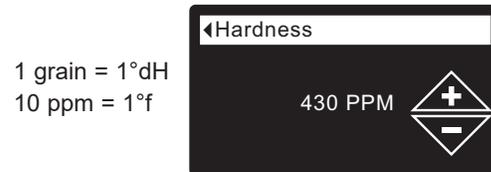

FIG. 48
5. Press the SELECT (O) button to display the Hardness screen (See Figure 48).